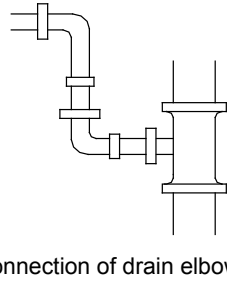

Fig.25
- NO.2: Attach the drain elbow as shown in Fig.25.